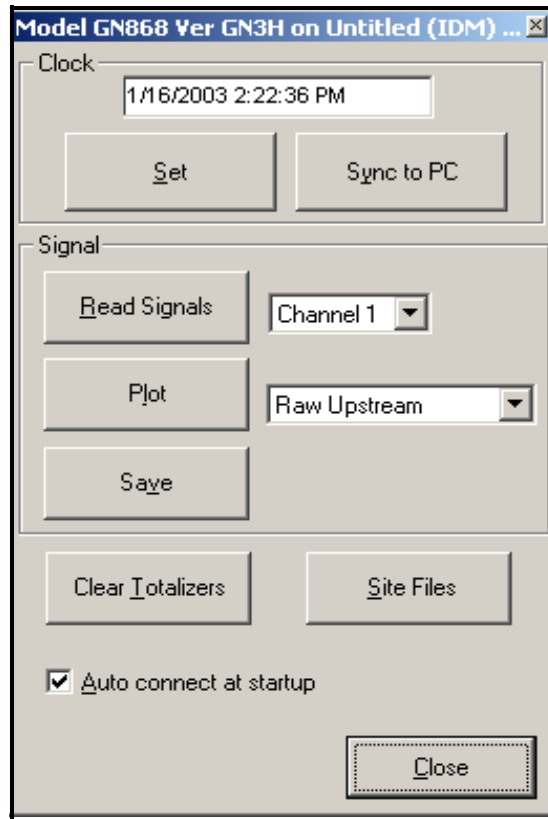

Figure F-11: Active Signal Options in Properties Window
1. Click on the *Read Signals* button. (If the meter is a multi-channel instrument, open the Channel drop-down menu and click on the desired channel.) After a moment, the *Properties* window appears similar to Figure F-11 below.